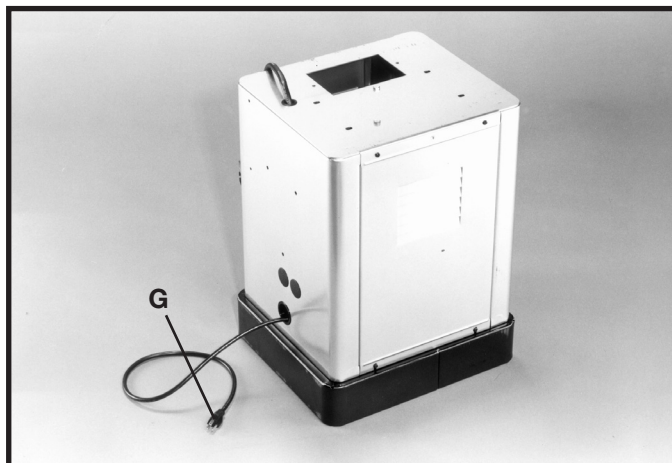

Fig. 4
3. Insert power cord plug (G) Fig. 4, through the bottom hole of the band saw stand.